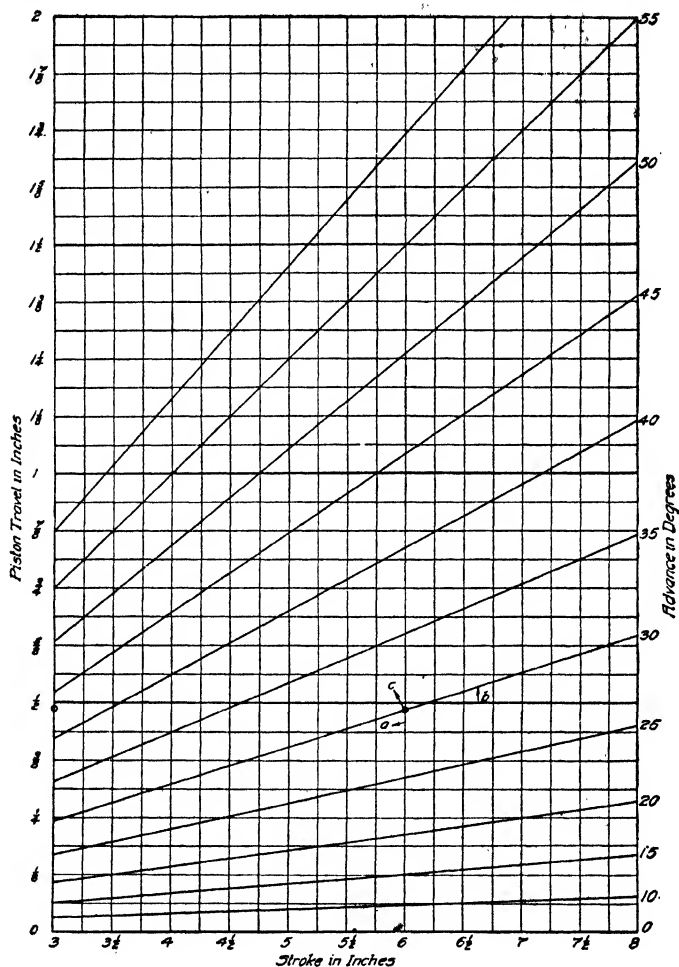

Fig. 91. Relation of Spark Advance to Piston Travel (Bosch)
*Calculation of Small Time Allowance.* The relation of spark advance in degrees to piston travel in inches with motors having strokes running from 3 to 8 inches is shown by the accompanying chart, Fig. 91. In this the ratio between the crank and the connecting rod length is 1 to 4.5. The lettering shown indicates the method